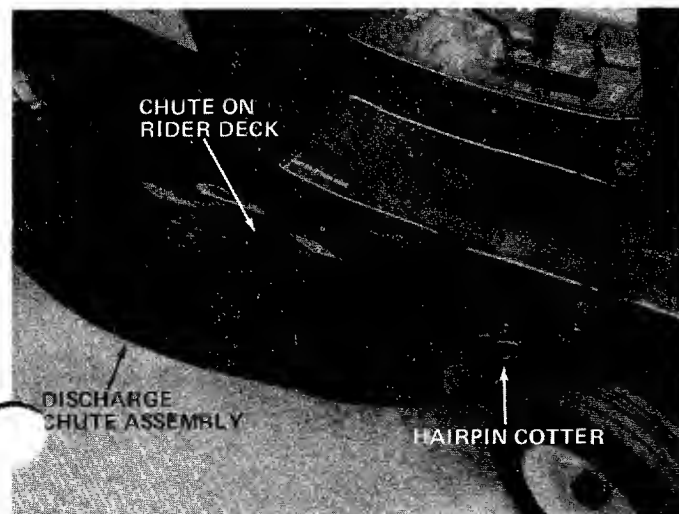

FIGURE 15
16. Raise the chute on rider deck up. Slide the discharge chute assembly into place lining up the hinge on chute assembly with hinge on deck. Secure with hairpin cotter provided. See figure 15.